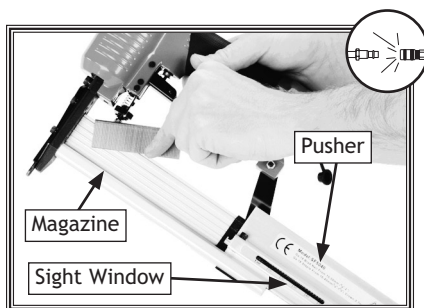

Figure 4. Loading nails into magazine.
3. Insert a strip of brads or staples, pointed-end down, into the magazine as shown in **Figure 4**.
6. Reload the nailer/stapler when the magazine sight window (**Figure 4**) shows the nail or staple level is low. The sight window shows up to approximately 50 nails or staples loaded.